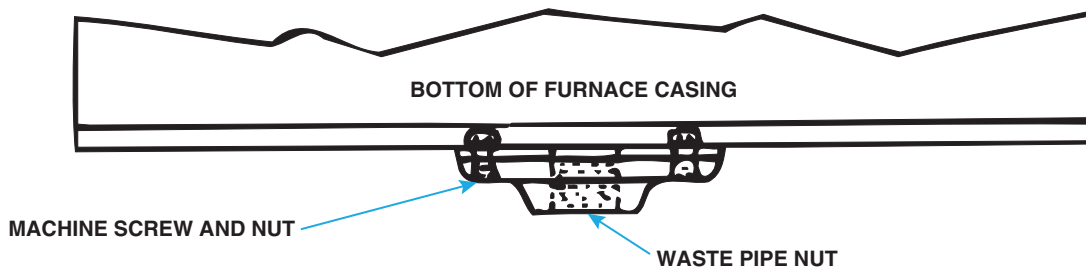

Figure 21. Condensate Drain Connection
1. Install drain flange (option CS1, PN 31765) in bottom of furnace casing as shown in Figure 21 and secure using two machine screws (#10-32 × 1-inch-long) and nuts.